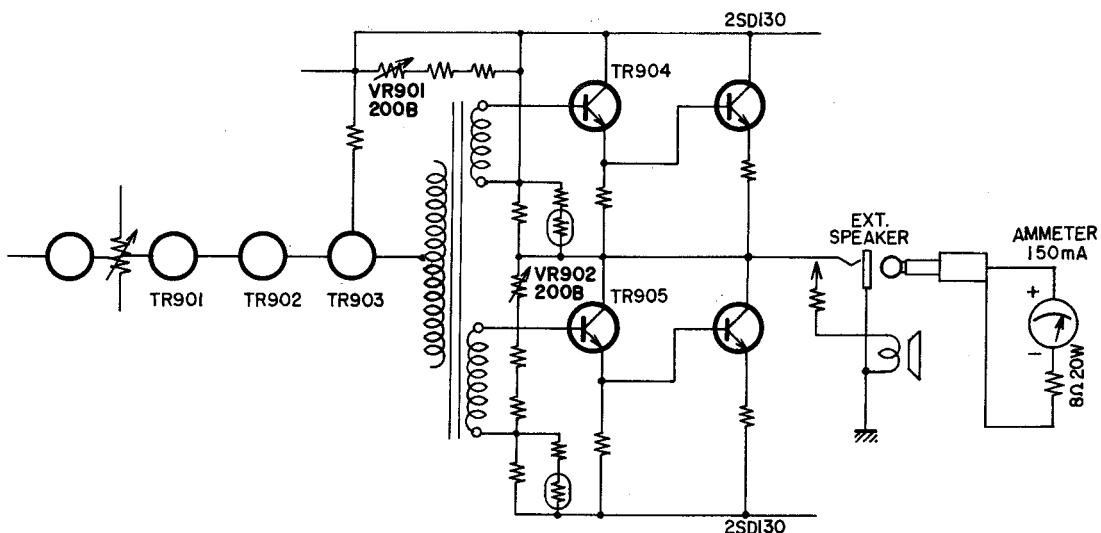

Fig. 1
Connect an audio oscillator to the line output jack, depress "Tape" Button, and record a 16 KHz signal at a -10 dB recording level. Adjust screw (f) (Figure 1) so that the indicated V.T.V.M. value applied to the line output jack is maximum.
- As shown in Fig. 1, connect the AM Meter (100 mA–150 mA scale) and a resistor (8Ω 20W) to the External Speaker Jack.